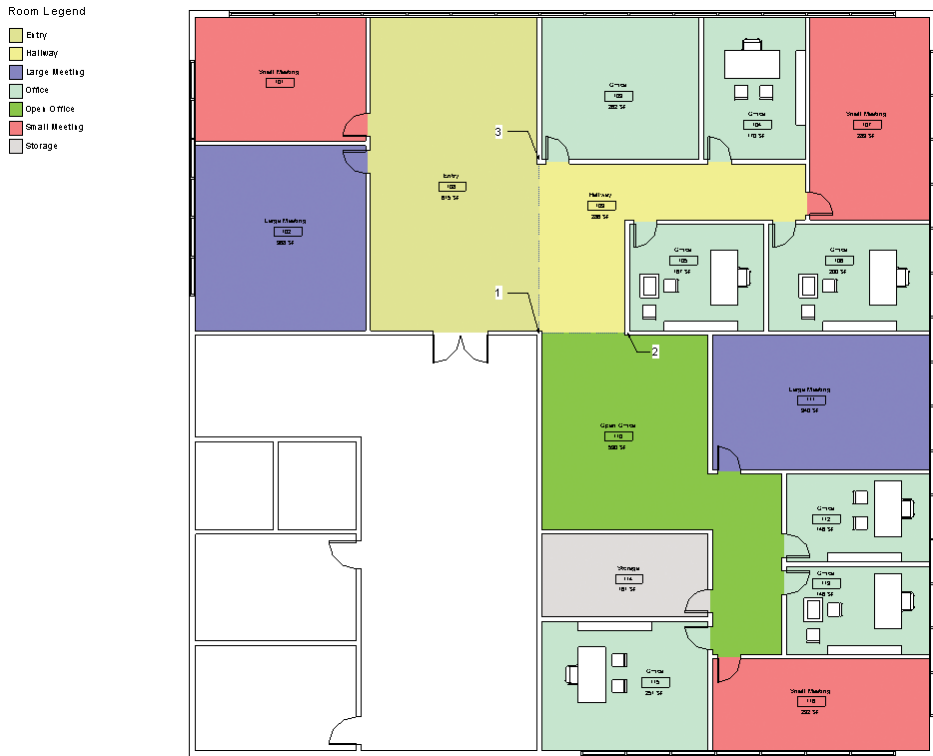

FIGURE 8.16 Updated color fill
3. Continue modifying the color values in your color scheme until you are satisfied with its appearance (Figure 8.16).